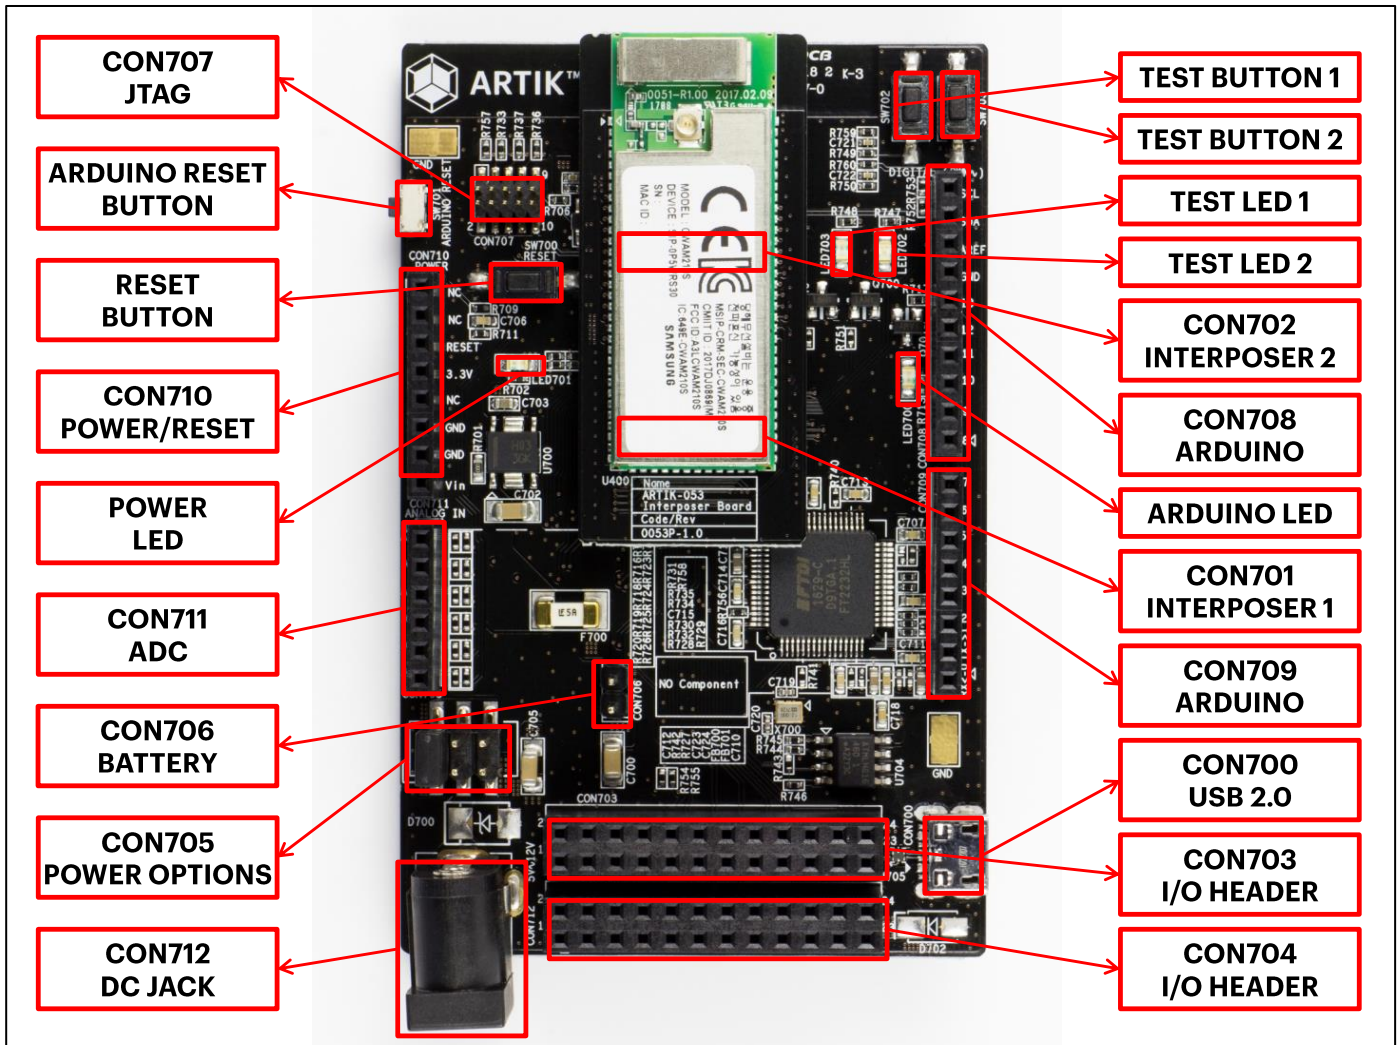

Figure 5. ARTIK 053 Starter Kit component placement
- Figure 5. ARTIK 053 Starter Kit component placement 9
The Starter Board that hosts the ARTIK 053 Module through the Interposer Board as depicted in *Figure 5*, also provides a number of headers tailored specifically for development.
When mounting an ARTIK 053 Module on the Starter Board, make certain that you orient the ARTIK 053 Module such that the ARTIK 053 Module Antenna structure is closest to the Samsung ARTIK™ logo located on the Starter Board. See Figure 5 for details.